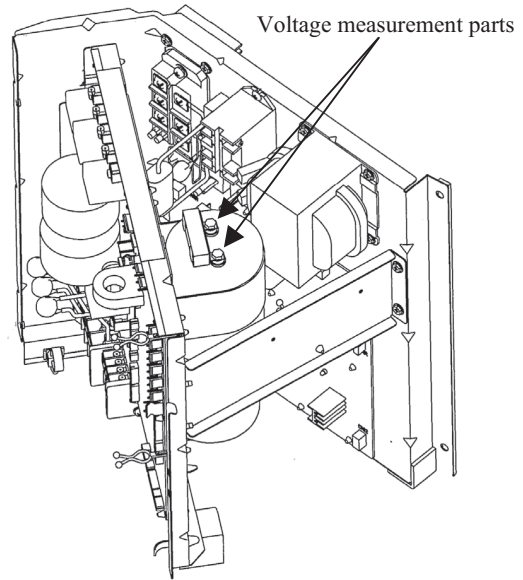

Fig.1 Position of capacitor
(Be sure to measure voltage (DC) on both capacitor terminals located in controller back, and **check that the voltage is discharged sufficiently.** (Refer to Fig.1))